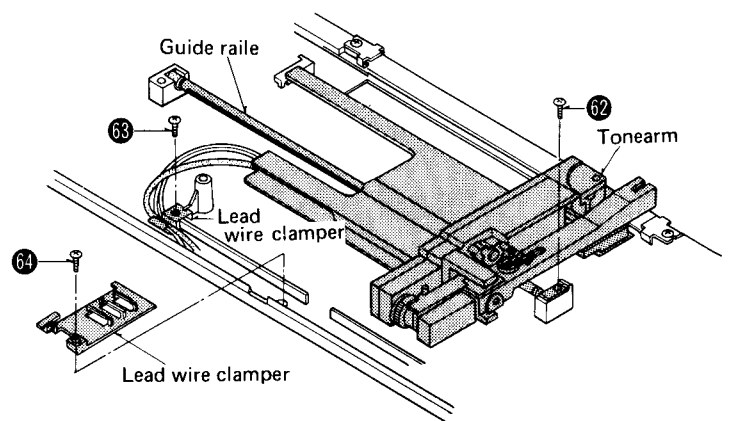

Fig. 13
3. Remove the tonearm guide rail setscrew 62 and lead wire clamber setscrews 63, 64. Then the tonearm can be removed. (Fig. 13)